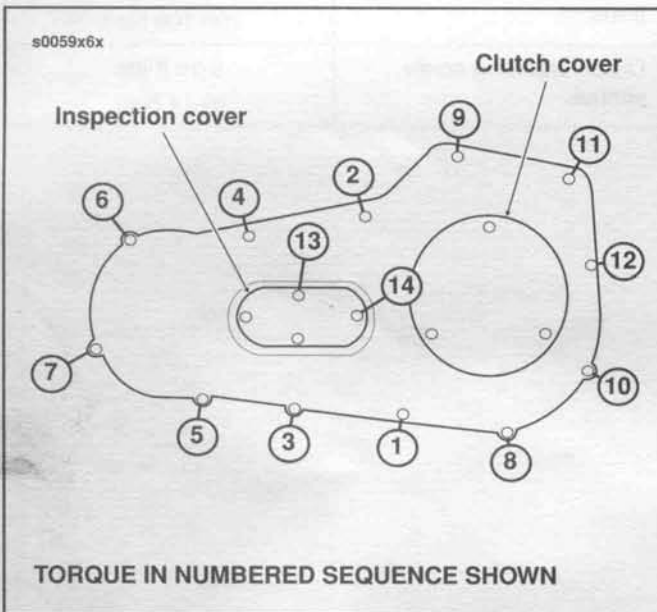

Figure 6-1. Primary Chaincase Cover
See Figure 6-1. The inspection cover is fastened to the inner primary chaincase at the top and rear screws (items 13 and 14). Before removing the primary cover, be sure you remove the inspection cover's top and rear screws or the cover, primary cover and inner primary will be damaged.
2. When lubricant has drained, remove the primary chaincase cover by first removing the top and rear inspection cover screws (items 13 and 14 in Figure 6-1), then remove the rest of the chaincase cover screws.
1. To install the chaincase cover, replace the cover gasket, and the two small round gaskets on the two inner primary case towers (under items 13 and 14 in Figure 6-1).
2. Tighten screws to 108-120 in-lbs (12-13.5 Nm) in sequence shown in Figure 6-1. Then replace chaincase lubricant, see SCHEDULED SERVICE PROCEDURES in Section 1.